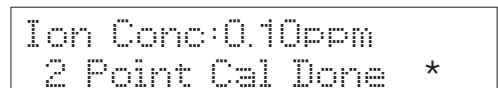

Figure 53
10. Allow probe to stabilize in calibration standard. Press **ENTER** to confirm. The display flashes *2 Point Cal Done \**. See **Figure 53**.